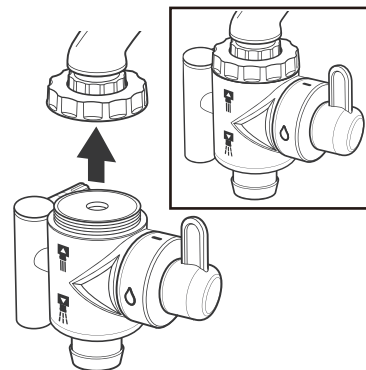

Figure 3.9 – Installing diverter to Collar
9. Connect the diverter to the collar, capturing the adaptor inside the cap and positioning the diverter handle towards the front of the faucet (see Figure 3.9). Be careful to not cross the threads when tightening. Do not over tighten.